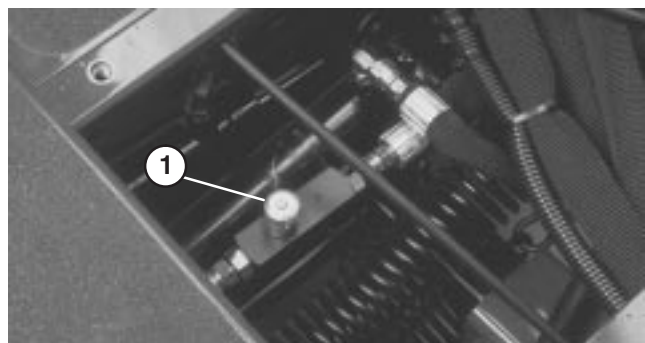

Figure 61
ADJUSTING CUTTING UNIT LIFT RATE (Fig. 61 – 63)
1. Locate valve behind access panel above operator's platform (Fig. 61).